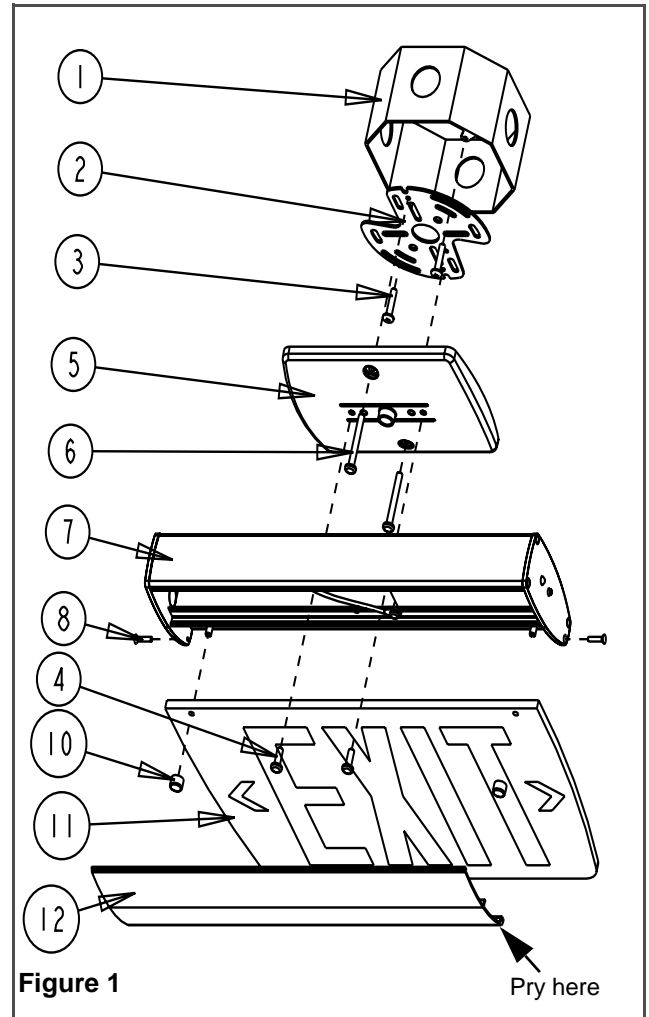

Figure 1
4. Unsnap cover (12) by using your fingers, lift the bottom of the cover and remove (if the cover is too difficult to open gently pry the cover using a flat head screw-driver at the point indicated in fig.1).
Wall Mount (See Figure 1)